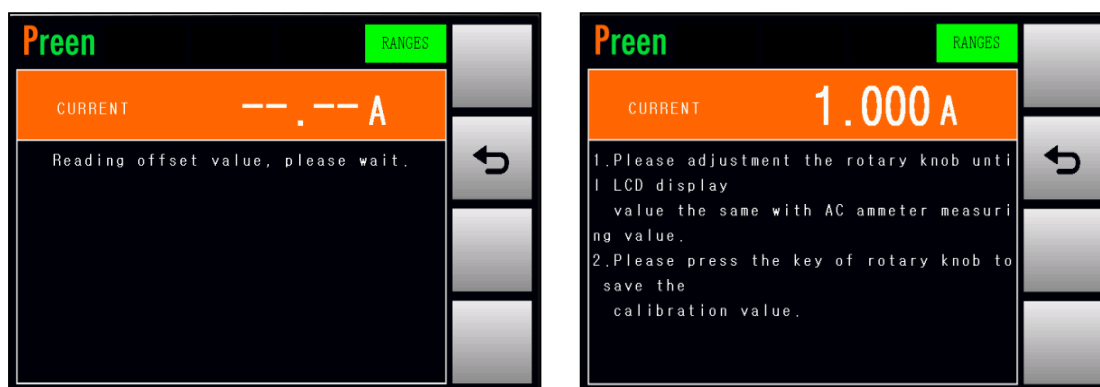

Figure 4-6-2 Enable the calibration of the LO-Range RMS current.
3. Press the output & reset button on the front panel to enable the calibration of the HI-Range RMS current (refer to Figure 4-6-2), and then the product will start to output the voltage which is closed to 100V.